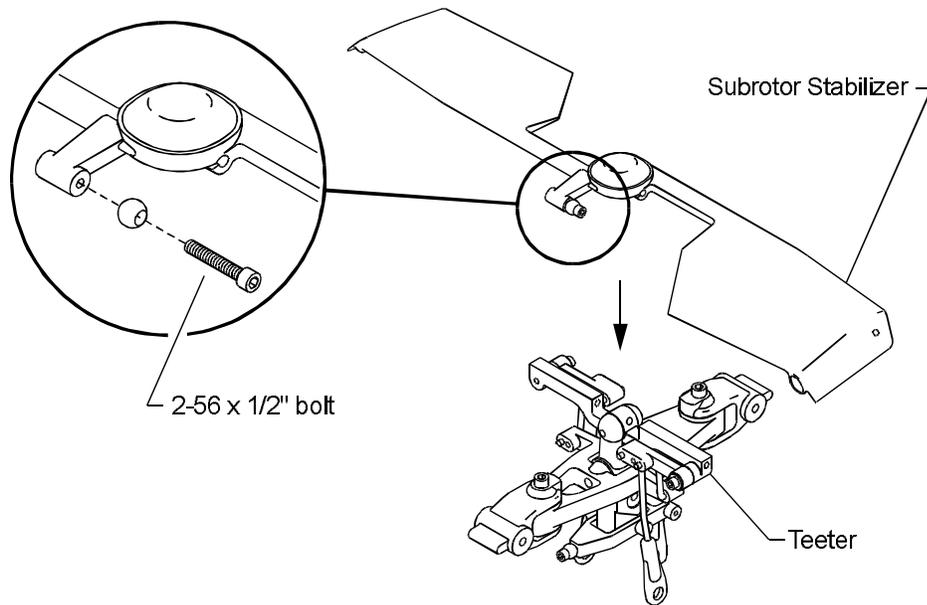

Figure 8-5.
- 11. Attach a metal universal ball to the *Subrotor* stabilizer as shown in Fig. 8-5. Tighten the bolt only until the ball is held in place (tightening the bolt further may split the plastic or strip the threads).